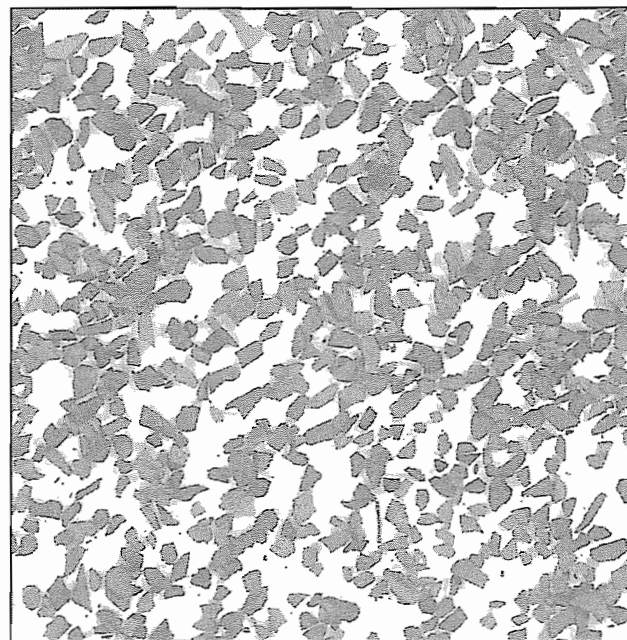

Figure 7-18. Crushed & sieved mesquite charcoal shown actual size.
2. Filter out and discard any powdered charcoal by sifting the material created in step 1 through the window screen sieve (Figure 7-17). Then dry the charcoal as described on page 200, and proceed to step 3. Figure 7-18 shows the crushed and sieved material, actual-size, spread out on a sheet of white paper.